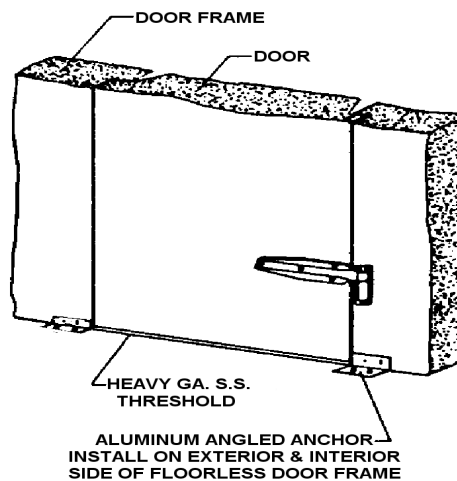

FIGURE 10 - DOOR LAYOUT
4. Anchor the door sections as shown in Figure 10, page 6. Aluminum angles are provided to anchor the exterior and interior side of the door frame jambs. After the door frame is leveled and square, secure the bottom of the frame with the aluminum angled anchors. This will prevent the frame from shifting position.
4. Anchor door sections as outlined in Section B, step 4; Figure 10, page 6.